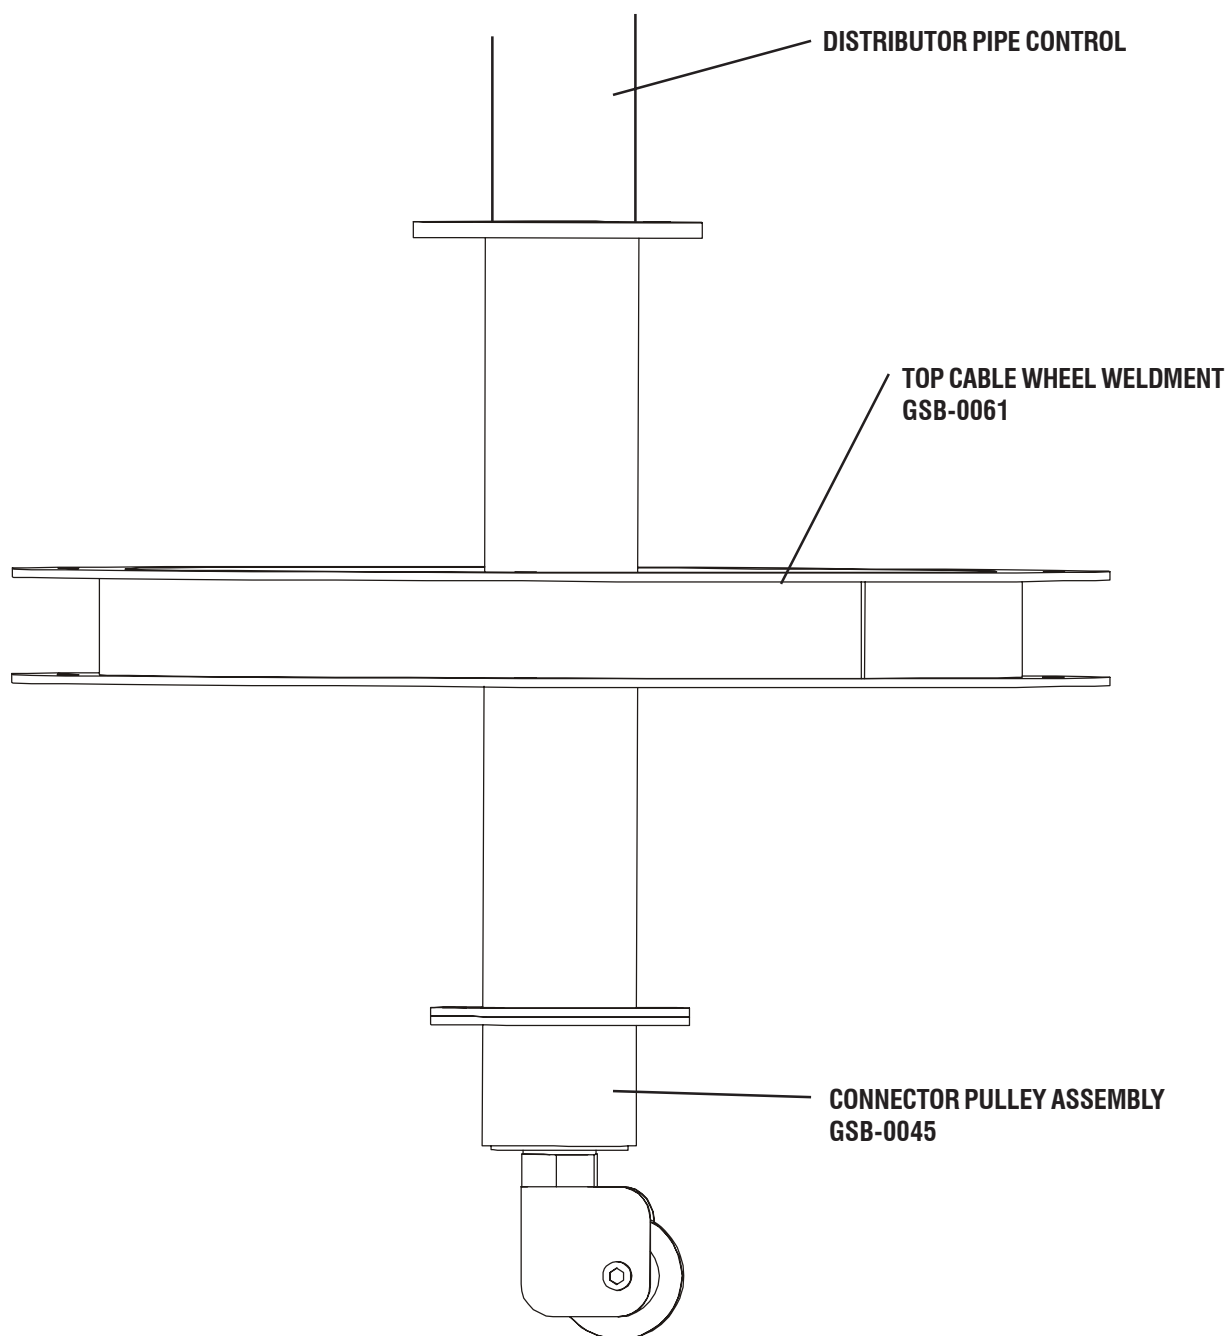

Figure 2
The next piece to install is the connector-pulley assembly (GSB-0045). This piece mounts to the Top Cable Wheel Weldment (GSB-0061) as shown in Figure 2 below. These are fastened together using (2) 5/16" x 1" bolts and whiz nuts, supplied in the hardware package (FC-DCG-HDW).